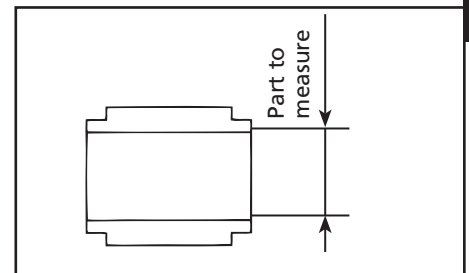

Figure 28-B
- Remove the packing from the throat bearing (See Figure 28-A).
Measure the inside diameter, and if it is outside the usable range, replace the throat bearing (See Figure 28-B).